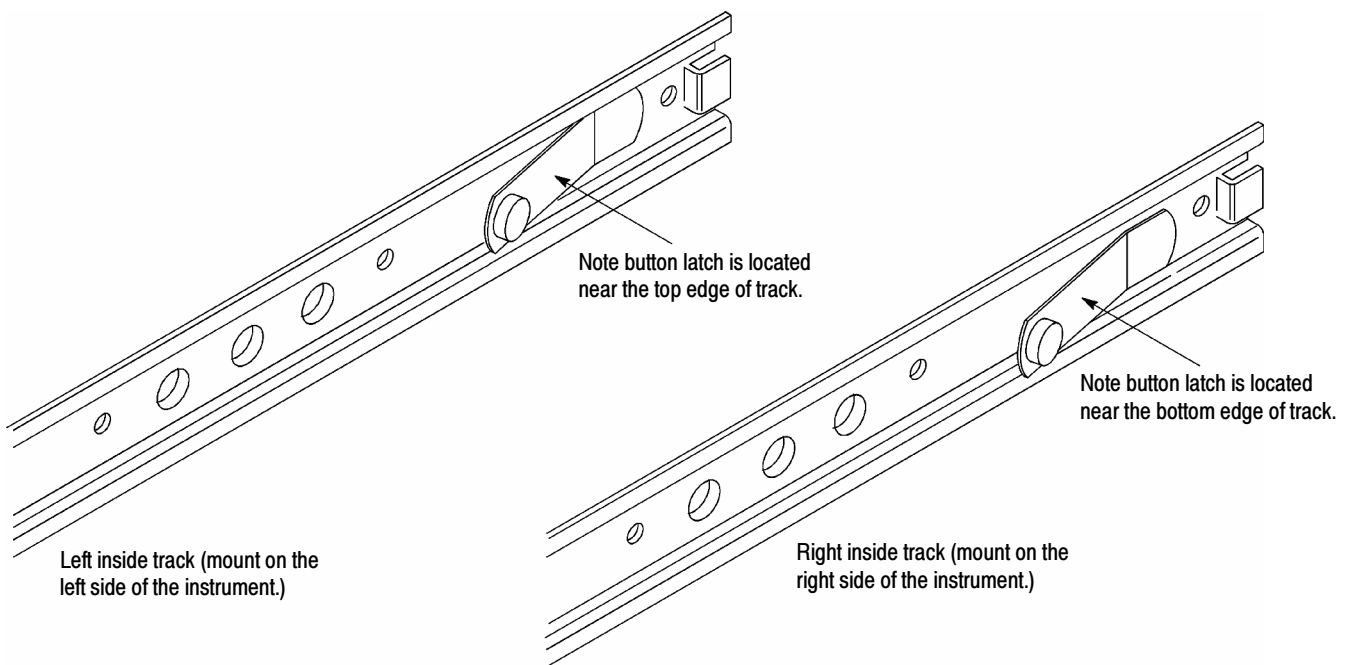

Figure 1: Left and right inside track identification
1. Identify the right from the left inside track using Figure 1.